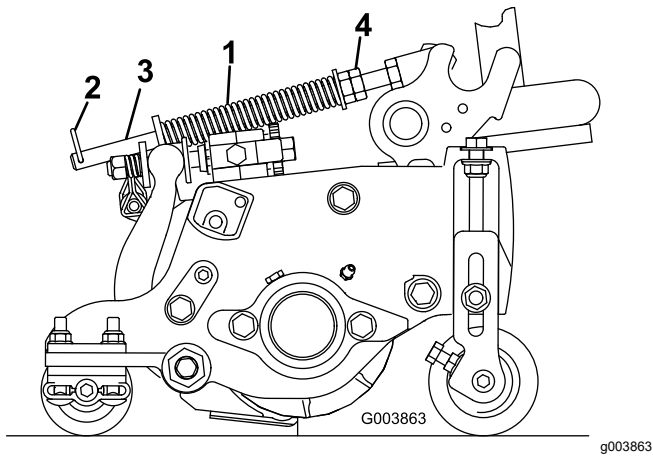

Figure 14
The turf-compensation spring transfers weight from the front to the rear roller (Figure 14). This helps to reduce a wave pattern in the turf, also known as marcelling or bobbing.
1. Make sure that the hairpin cotter is installed in the rear hole in the spring rod (Figure 14).
- 2. Tighten the hex nuts on the front end of the spring rod until the compressed length of the spring is 12.7 cm (5 inches) for 5-inch cutting units or 15.9 cm (6.25 inches) for 7-inch cutting units (Figure 14).